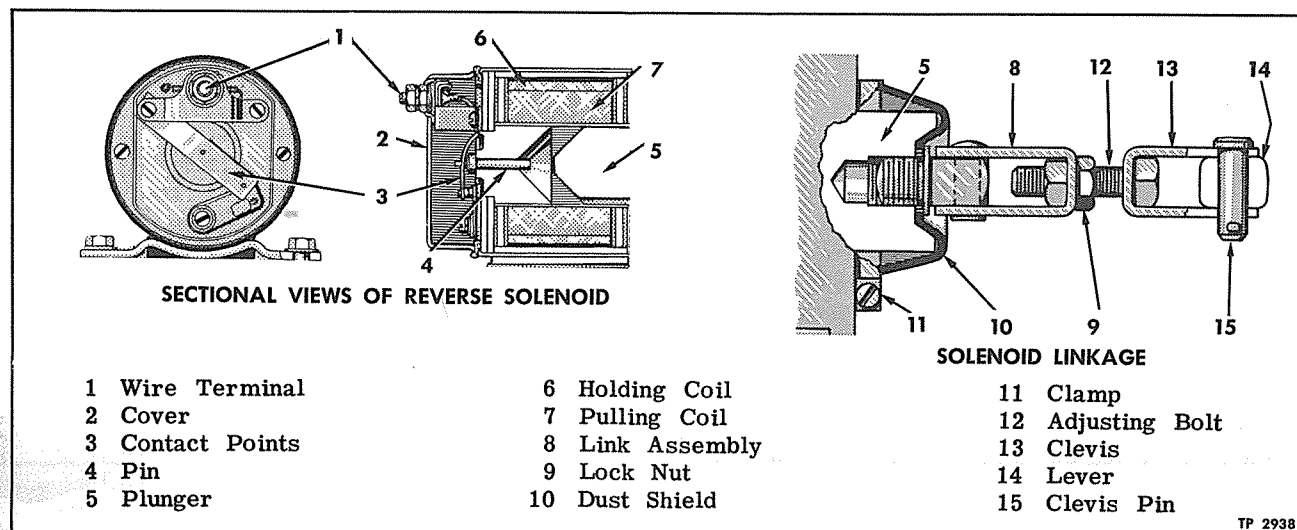

Figure 8—Reverse Solenoid and Linkage
Both coils in reverse solenoid (fig. 8) are energized to move the shift finger in transmission, but as solenoid plunger reaches end of its travel it strikes a pin which opens a set of points thereby breaking circuit through pulling coil. The holding coil remains energized however and will hold the solenoid plunger "in" as long as driver presses the reverse switch button. Refer to Wiring (Sec. 7A of this manual) for wiring, circuits, etc.
5. Adjust lock nuts on solenoid link screw so that solenoid points just break, with the 1st, 2nd and reverse speed shift shaft moved fully into reverse speed position (fig. 8).